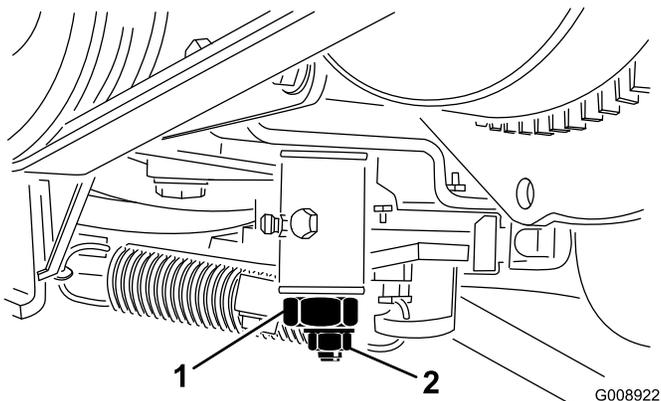

Figure 49
2. Loosen the throttle cable connector on the injection pump lever arm (Figure 49).